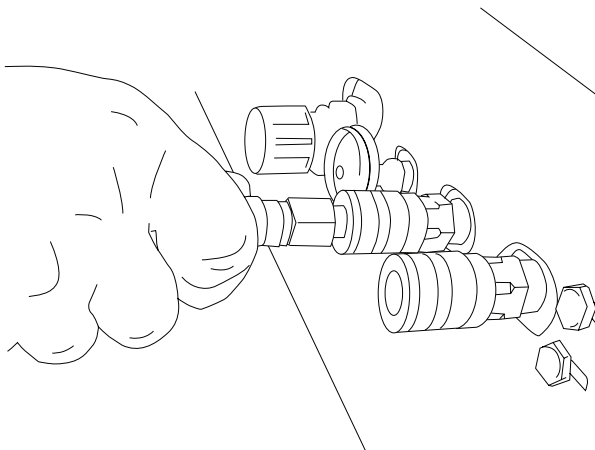

Fig. 5
2. Pull coupler on quick connect body back to release quick connect plug on hose. (See figure 5)